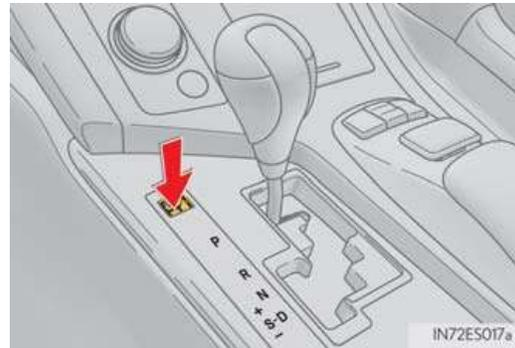

Figure 22
- Depress the button below the cover and move the shifter out of the “PARK” (P) position (Figure 22)